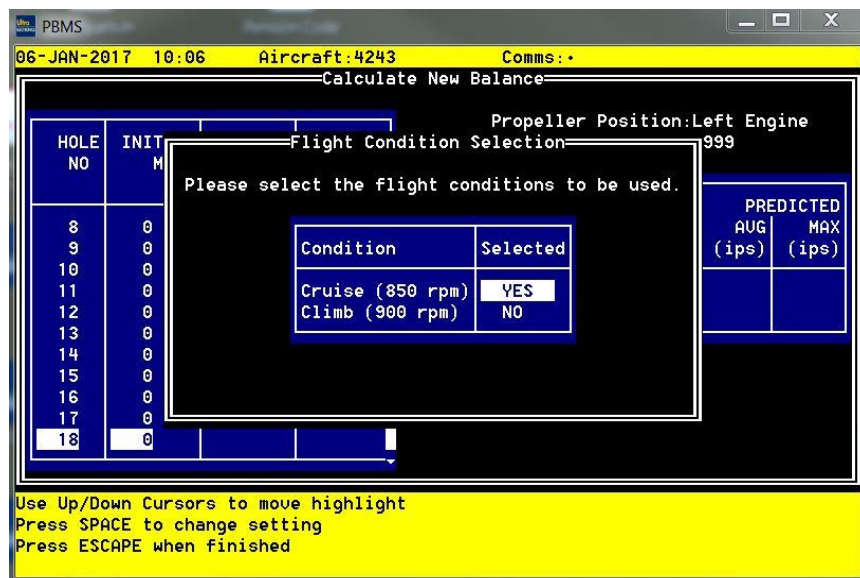

Figure 3-4 Flight Condition Selection Window
- (8) Press the <F5> key to bring up the 'Flight Condition Selection' window (Refer to Figure 3-4). Use the cursor key to select a flight condition and use the <SPACE BAR> to switch it on or off. Press <ESC> to return to the 'Calculate New Balance' Screen.